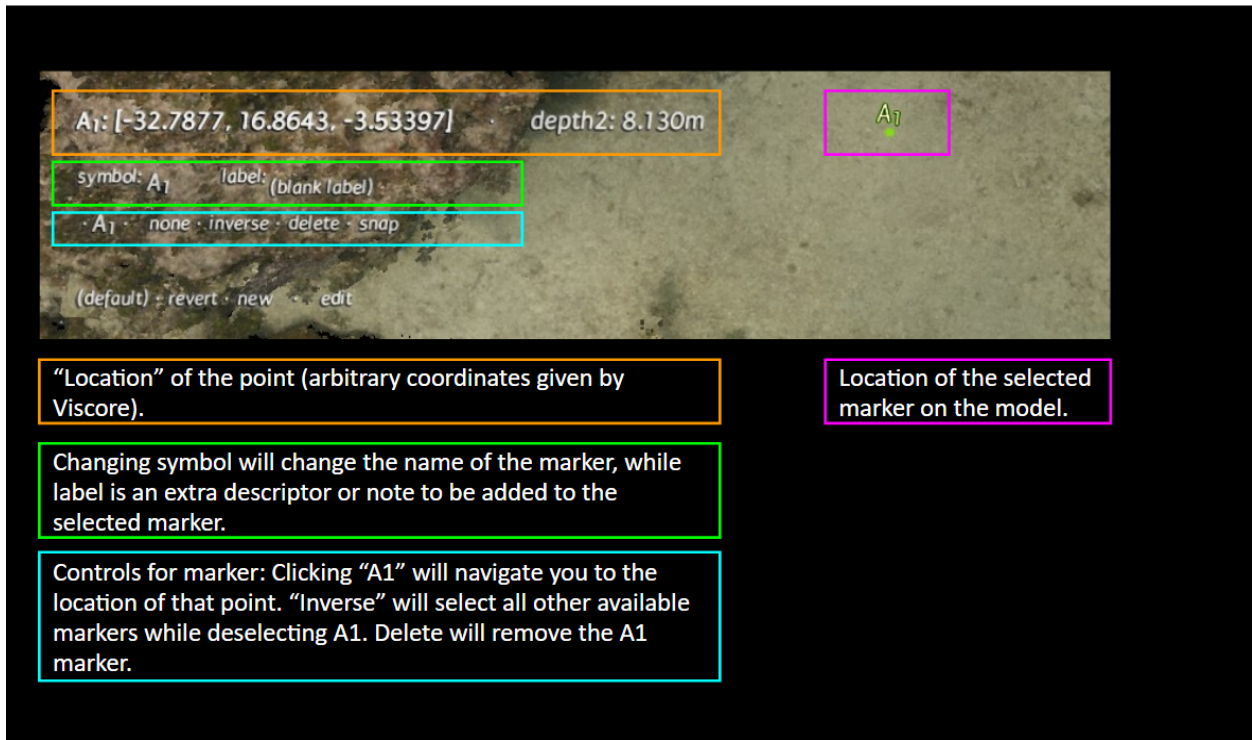
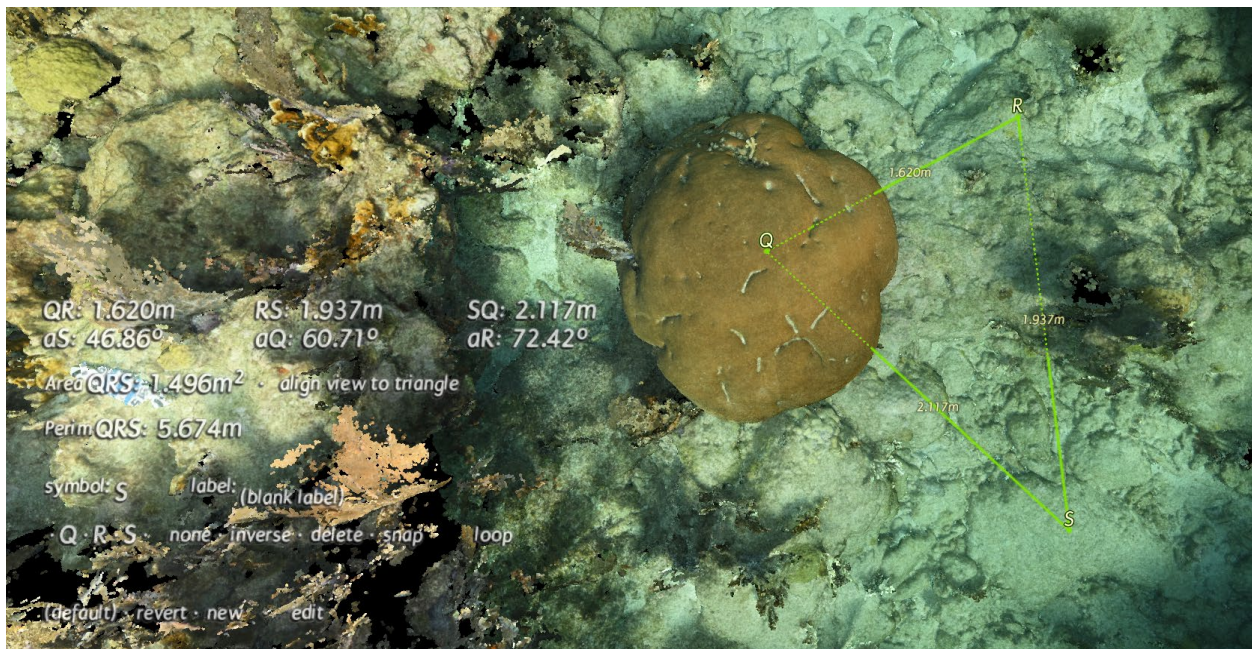

Figure 61. Marker menu in Viscore.
Figure 62. Example of multiple markers selected in Viscore.
Markers are an integral part of efficiently navigating and utilizing various workflows in Viscore. Knowing how to select, deselect, add, and remove markers from a Viscore model will translate into more effective use and understanding of workflows outlined later in this guide. Markers are used by a variety of tools but can also be temporary. Figure 61 and Figure 62 show an overview of the markers menu and the controls available.
- `Alt + center-click` (center-click may be accessed by clicking down on the scroll wheel, but be sure not to scroll) on any point/location in the model. A new marker will appear with its corresponding label, and a new menu will appear in the bottom-left corner of the screen (Figure 61).
- Connect two or more markers (Figure 62):
- Click on the marker's name next to `symbol` in the bottom-left corner menu (Figure 61), and type to change the symbol used for the maker. Press Enter to complete renaming.